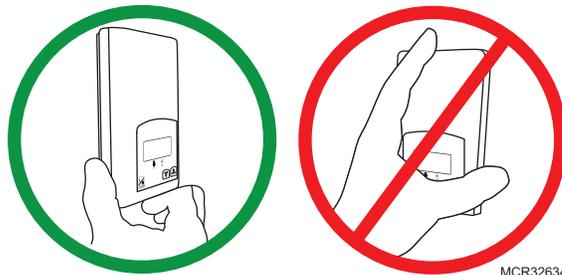

Fig. 6. Hold the thermostat, as shown in the left image, when doing a site survey.
- To ensure accurate readings, ALWAYS hold the thermostat near the bottom. Do not hold it up higher, as you may cover the antenna (Fig. 6).